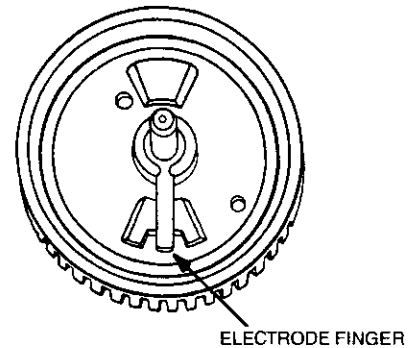

**Figure 3.3.8**
2. Inspect the brass electrode posts for signs of physical wear. Replace block assembly as necessary. During normal operation, the post will experience an electrical-metal transfer with the distributor gear electrode. This condition is normal and not cause for rejection. (See Figure 3.3.8).